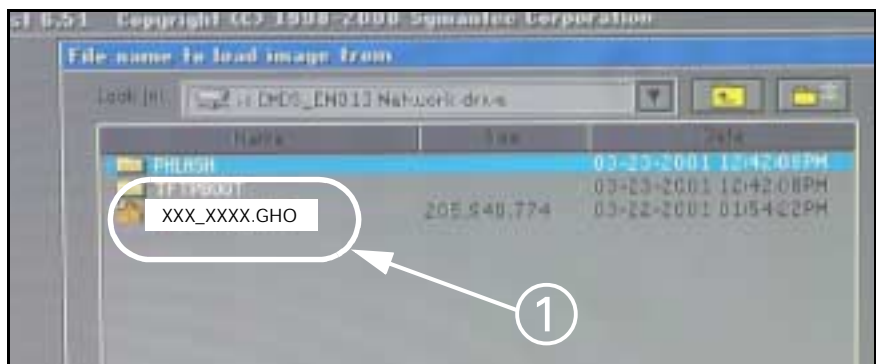

Figure 8-19 Image Folder (Image file)
- 5) At "File name to load image from" window, click on *xxx\_xxxx.GHO* (see ① in Figure 8-19).